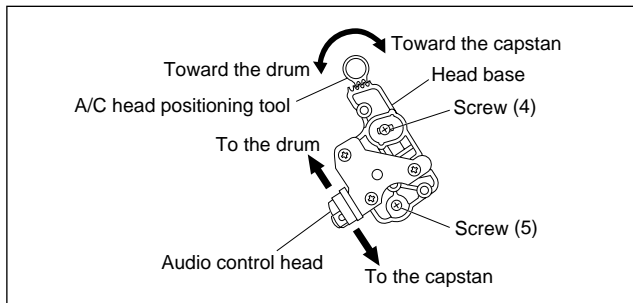

Fig. 2-3-3a
- (1) Play back the alignment tape (A1).
- (2) Apply the external trigger signal to D.FF (E), to observe the V.PB FM waveform at the measuring point (D).
- (3) Press the channel buttons (+, -) simultaneously to enter the manual tracking mode. This also brings tracking to the center (centre).
- (4) Loosen the screws (4) and (5), then set the A/C head positioning tool to the innermost projected part of the A/C head. (See Fig. 2-3-3a.)
- (5) Turn the A/C head positioning tool fully toward the capstan. Then turn it back gradually toward the drum and stop on the second peak point position of the V.PB FM waveform output level. Then tighten the screws (4) and (5).
- (6) Perform the tracking operation and make sure that the V.PB FM waveform is at its maximum. If it is not at maximum, loosen the screws (4) and (5), and turn the A/C head positioning tool to bring the A/C head to a position, around where the waveform reaches its maximum for the first time. Then tighten the screws (4) and (5).